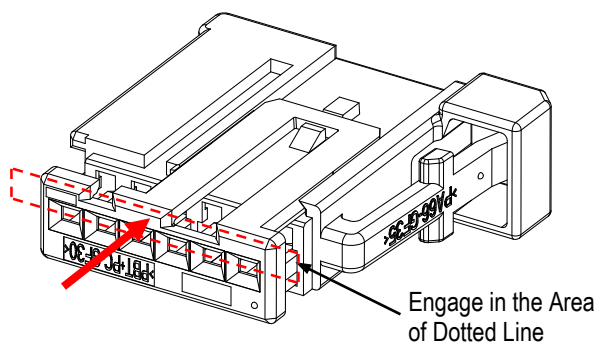

Figure 2
1. With the TPA at the pre-set position, engage the TPA from the top (latch side). See Figure 2.